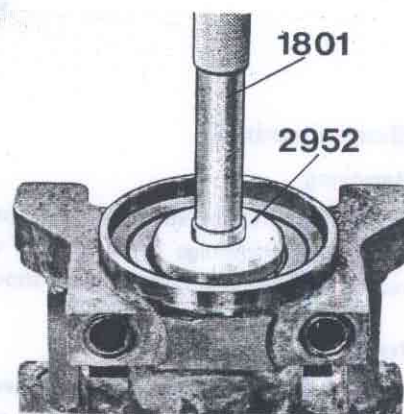

Fig. 76-8. Removing the needle bearing
2. Press out the needle bearings with drift 2952 and standard handle 1801, see Fig. 76-8. Press out both the bearings at the same time. Pluck out the inner axial washer (3).